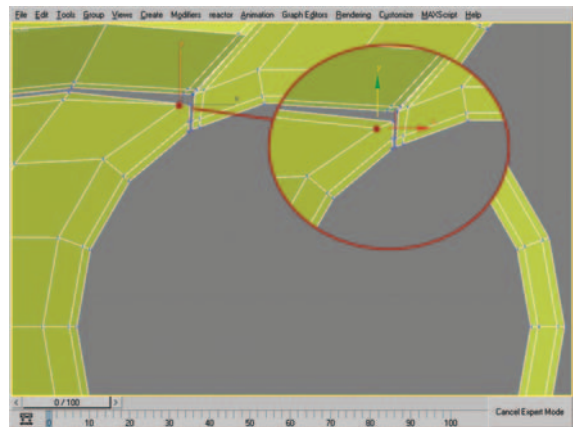

Figure 8.68 Oddly placed vertex before and after moving with Edge Constraints active (red circle).
67. Figure 8.68 shows a close-up of the vertex before and after moving with the Move tool and Edge Constraints active. This area still needs a little attention; if you toggle the Shell and TurboSmooth modifiers, you will see the corner is not “squared” yet. Let’s fix it!